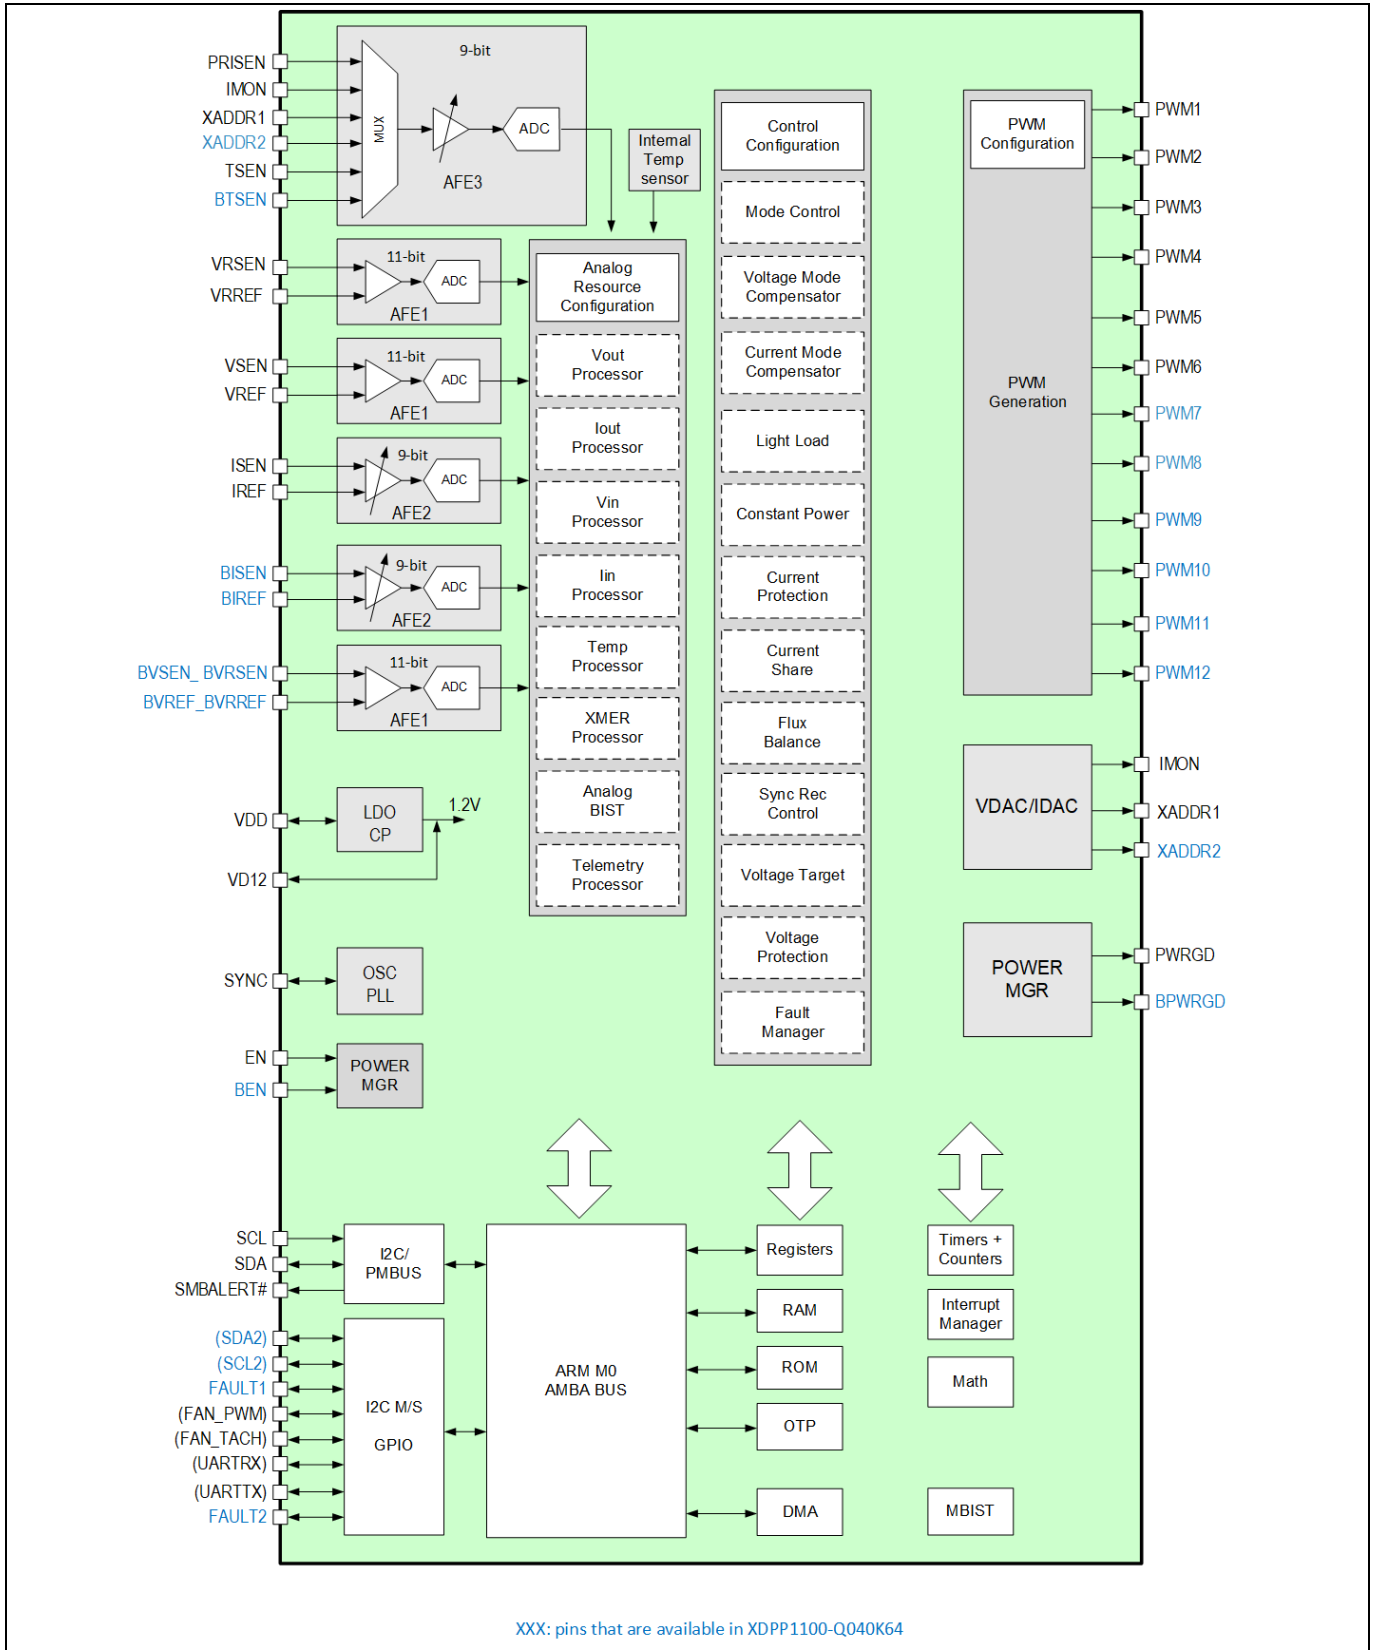

Figure 2 Block diagram
The block diagram of the XDPP1100 is shown in **Figure 2**. It contains three high-speed high-resolution VADCs (AFE1), two current sense (CS) ADCs (AFE2) with current ripple estimator, one general-purpose ADC (AFE3) with six input channels to digitize voltage, resistance and temperature, followed by digital voltage processors and current processors. The signals are processed and sent to the digital core. The digital control loop is state machine-based and an ARM® CORTEX M0 core is integrated into the XDPP1100. This architecture makes it fully programmable with high-bandwidth (BW) performance. The pulse width modulation (PWM) block has two ramp generators and 12 pulse generators for up to 12 PWM outputs.